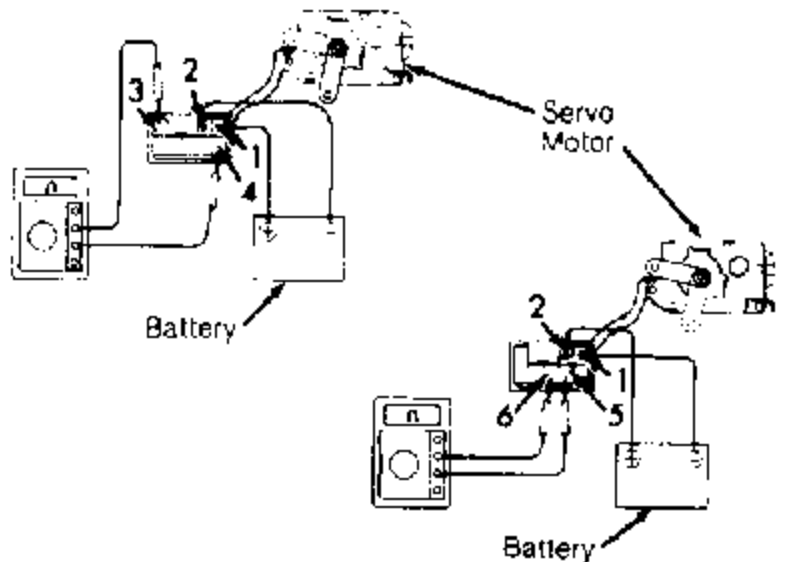

Fig. 8: Recirculated/Fresh Air Servo Motor Test
1) Connect jumper lead from battery positive terminal to terminal No. 1, and a negative jumper lead to terminal No. 2 of servo motor connector. See Fig. 8. Ensure servo motor arm moves smoothly. Continuity should exist between terminals No. 3 and 4.